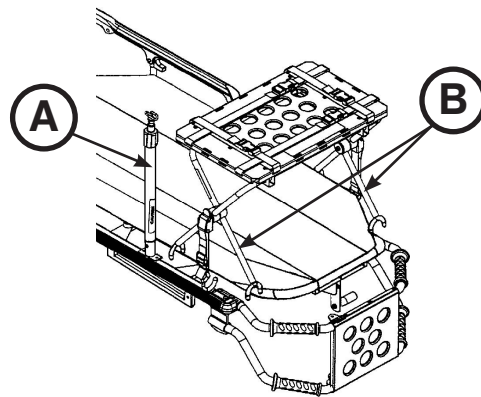

Figure 56
3. If the cot is equipped with an I.V. pole, raise the I.V. pole (A) to the up position as shown in Figure 56.
4. Place the defibrillator platform on the cot frame as shown in Figure 56. Position the inside legs (B) of the defibrillator platform toward the head end of the cot to properly fit the defibrillator platform on the cot frame.